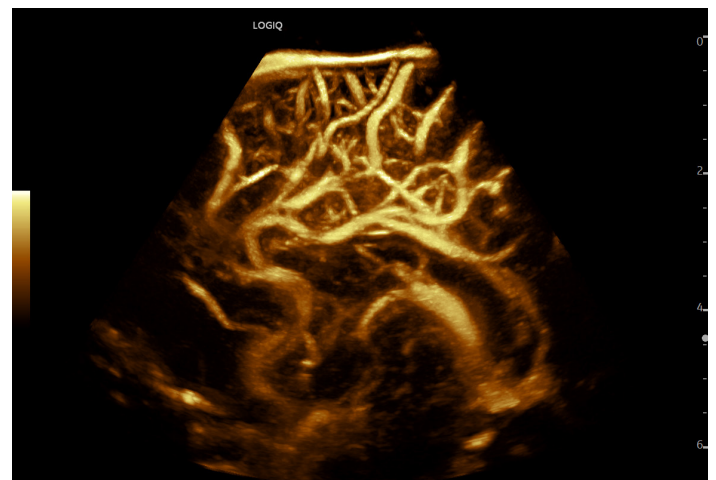

Figure 24. Neonatal head using B-Flow Capture to assess perfusion.
- Assessing neonatal head perfusion (Figure 24)